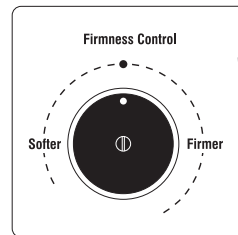

Figure 3—Firmness Control
3. Position the *Firmness Control* (located behind the control panel flap) initially as shown in figure 3.